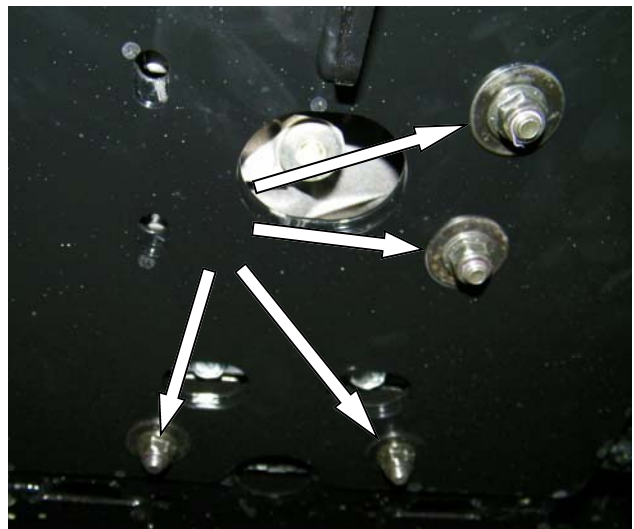

Fig. 5
5. Feed 3/8"-16 x 1" hex bolts and 3/8" ID x 1-1/4" OD washer through holes, and attach with 3/8"-16 Nyloc nuts and 3/8"ID x 1-1/4" OD Washers as shown in fig. 5. Do not completely tighten at this time.